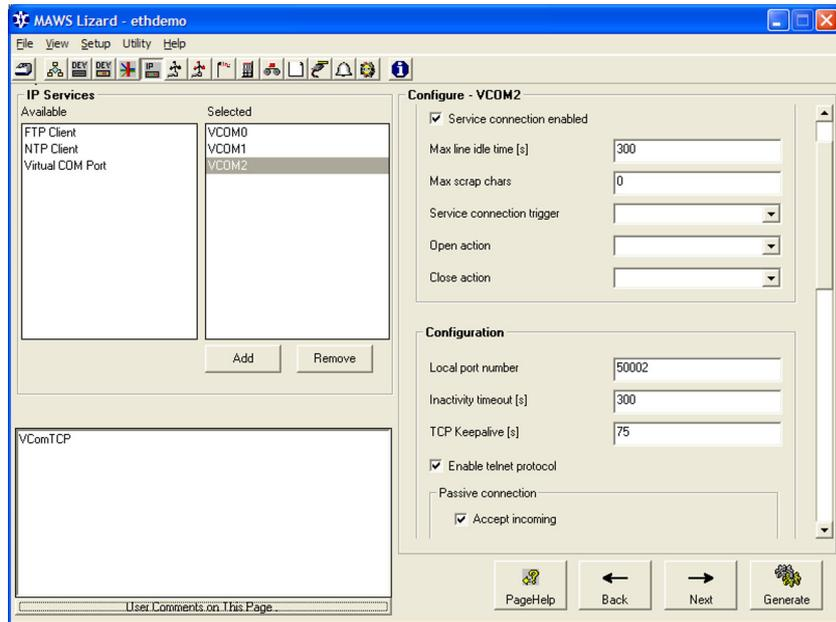

Figure 152 Configuring Virtual COM Port
4. Add and configure a virtual COM port for the sensor interface using DXE421. See Figure 152 on page 314.